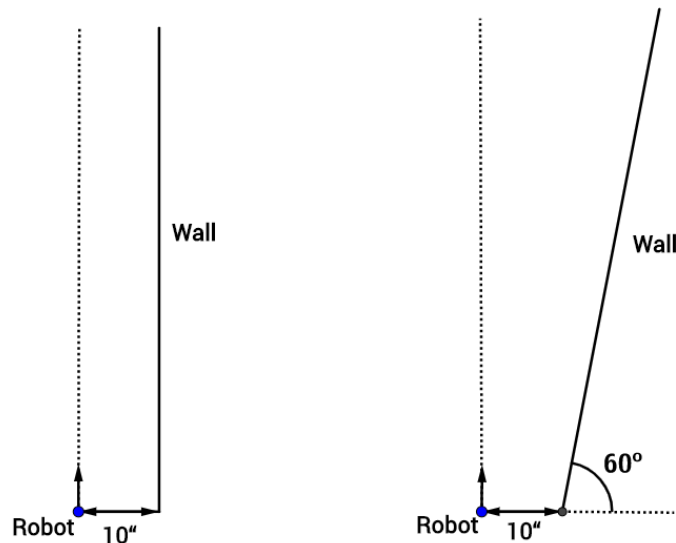

Figure 2. Robot moving along a wall.
5. Consider the following question: How many measurements should I combine? If the robot is immobile we can expect the more measurements we combine the smaller the error. On the other hand, consider the case in which the robot is moving. Consider the 2 situations shown in Figure 2:
In both cases shown in Figure 2, the robot is moving vertically along the dotted line at a constant speed of 10 inch/sec. In the left graph, the wall is parallel to the path of the robot, while in the right graph the wall makes an angle of 60 deg with the horizontal line. Assume that, in order to find out the distance to the wall, the robot will average 26 measurements, the first one taken at the starting position, and afterward taking one new measurement every 20 ms. What will be the average in both cases? In the right graph, does the average correspond to the current distance of the robot to the wall? In the right graph, how much error does the average have with the current distance to the wall? In other words calculate “ $\text{abs}(\text{last measurement} - \text{average})$ ”. Taking this information into consideration, think on the advantages and disadvantages of averaging few samples vs many samples.